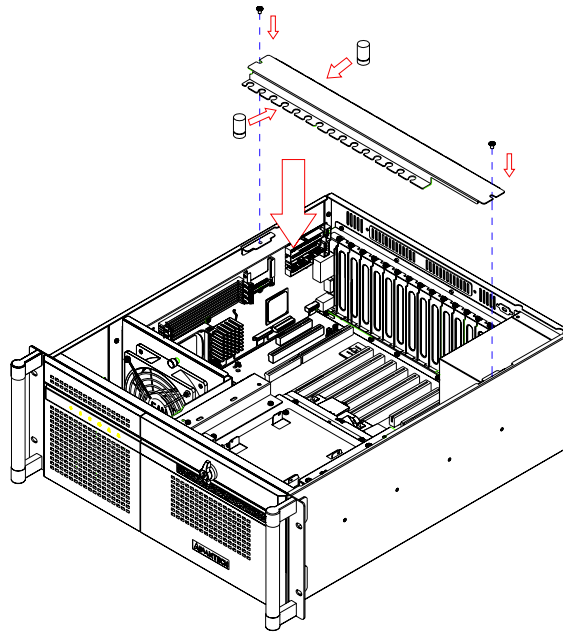

Figure 2.6 Installing rubber cushions and hold-down clamp
1. There are two rows of notches on both sides of the hold-down clamp for inserting into rubber cushions provided in the accessory box. One side is for PCI cards, while the other side is for ISA cards. Depending on the card height, the cushions can be inserted upward or downward. After the rubber cushions have been inserted into the notches, they will stabilize the add-on cards to protect them from shock and vibration. (see Figure 2.6)